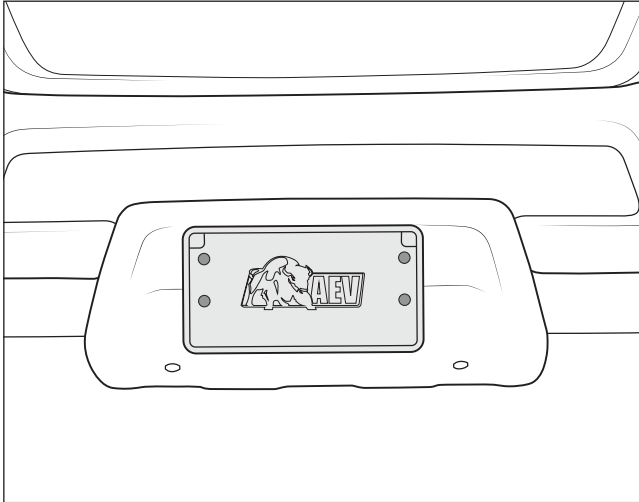

Figure 1
- A. Remove the 4 M4 torx screws attaching the license plate bracket (fig. 1).